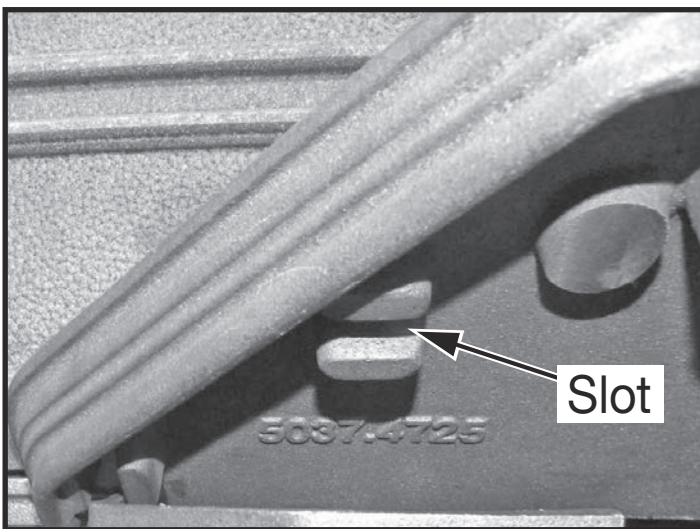

Figure 18: Positioning slots on underside of decorative cover.
9. Be sure to engage fan shield tops in the slots on the underside of the cast decorative top (Figure 18).